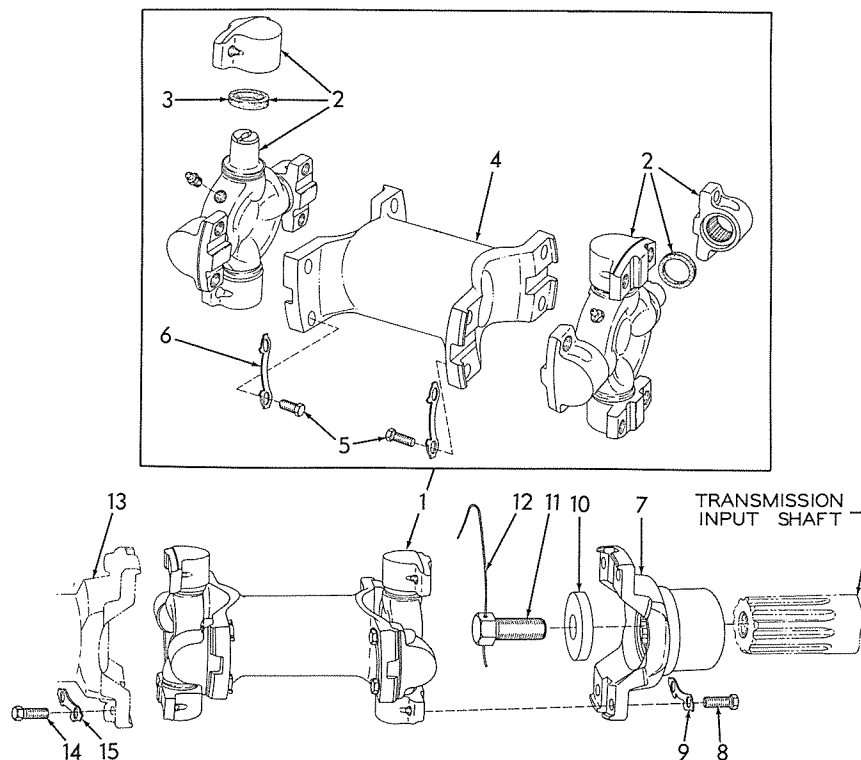

FIG. 64 DRIVE SHAFT UNIVERSAL JOINT
2. Refer to Fig. 64, unlock and remove cap-screws attaching universal joint to front and rear yokes; pry front yoke forward and remove universal joint. Remove front yoke from torque converter output shaft.
3. Refer to Fig. 64, unlock and remove cap-screws (5); remove front and rear spider assemblies (2) from center yoke (4).
1. Refer to Fig. 64, install new sealing washers (3) in each bearing cup; lubricate bearings with light coat of grease and install bearing cups on spider journals from which they were removed. Be certain
2. Refer to Fig. 64, install front yoke (13) on torque converter output shaft. Place universal joint assembly on rear yoke